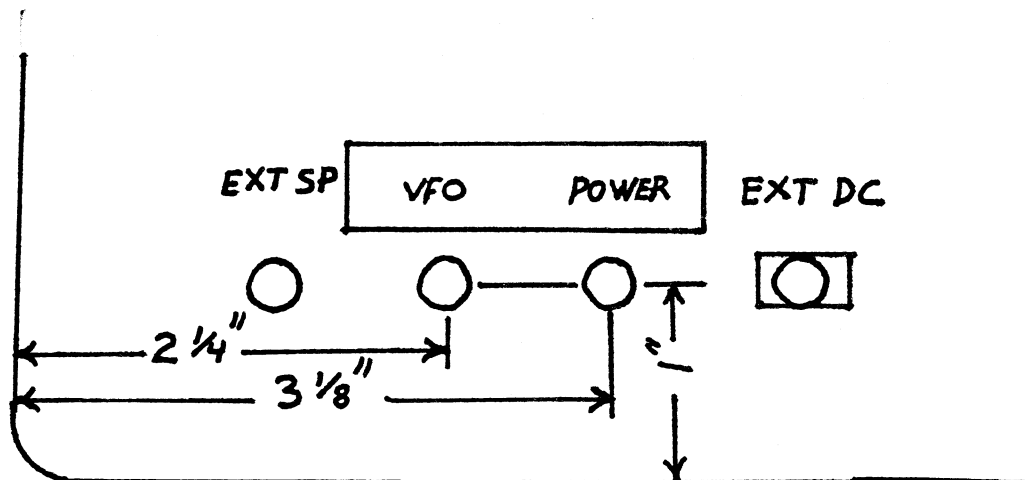

Figure 1.
2. Drill two $\frac{1}{4}$ " dia. holes in receiver rear panel in position shown in figure 1. Use center punch to mark hole locations, and drill with chassis sitting on edge of table and drill held horizontally to prevent spread of metal particles. Masking tape inside chassis lip in area of holes will help keep metal particles in place. Insure any wiring behind rear panel is held out of the way of the drill bit. After drilling, clean thoroughly.
4. Peel backing off of "VFO-POWER" label, and stick to rear panel centered above phono jacks, as shown in figure 1.